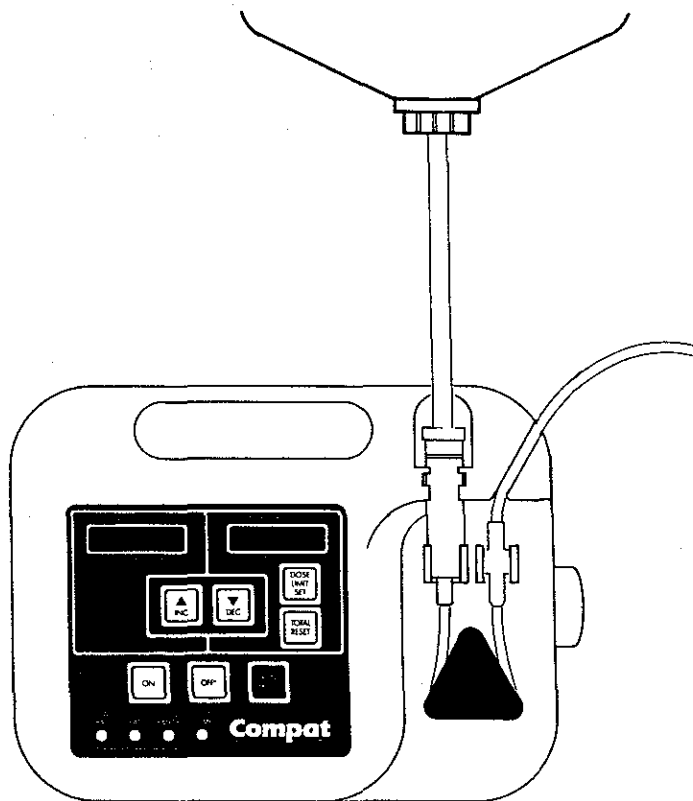

Figure 2-5 Pump Adaptor Placement. PVC Tubing Placement.
8. Insert pump adaptor into bridge. (Figure 2-5)
9. Place tubing into tubing guide. (Figure 2-5)